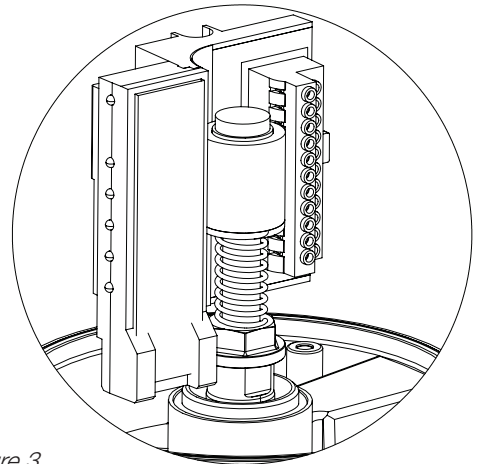

Figure 3
- H. Turn the selector switch to the "Product" position and the flow promoting device (timing pump) will not start. (Figure 3)